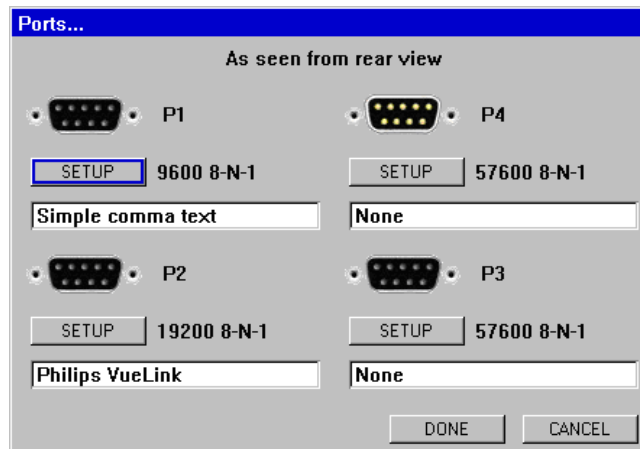

Figure 31: Ports Menu
- 4 Press the rotary knob a second time to open the Ports menu (see Figure 31 below).